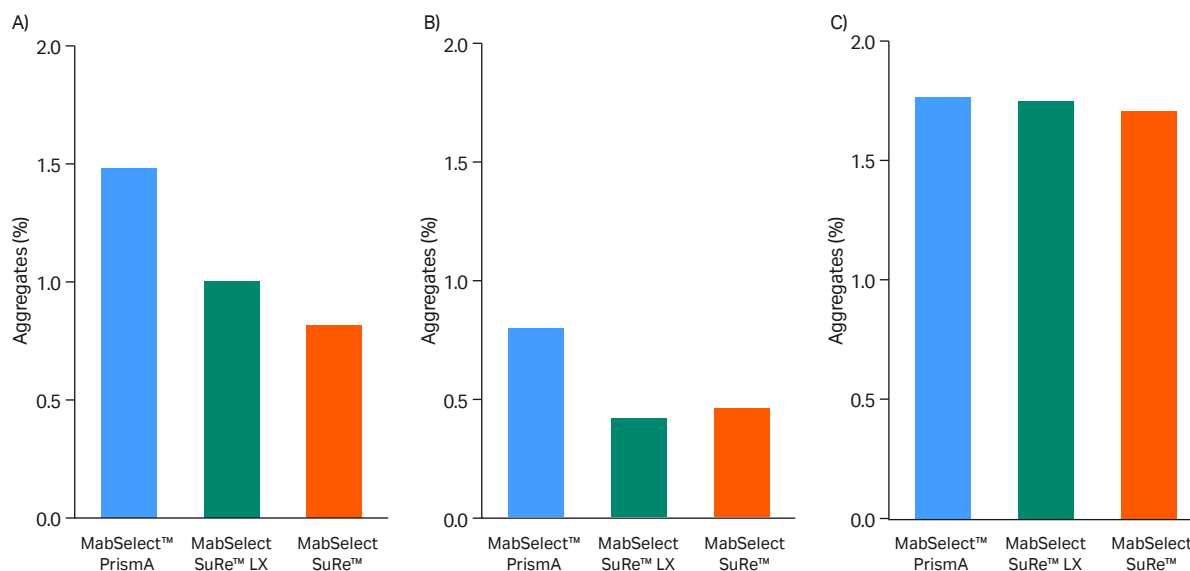

Fig 11. Aggregate content in eluate of (A) mAb1, (B) mAb2, and (C) mAb3. Bar graphs show remaining mAb aggregates (%) in elution pool.
MabSelect™ Prisma exhibits a significantly higher binding capacity than its predecessors MabSelect SuRe™ and MabSelect SuRe™ LX. This means, higher sample loads are allowed with the packed column and also higher mAb concentrations in the elution pool. Aggregate levels will depend on characteristics and concentration of the purified mAb, and pH for elution needs to be monitored and evaluated. Figure 11 shows a comparison between aggregate levels in eluate pool from MabSelect™ Prisma and its predecessor resins. The observed increased aggregate level for one of the mAbs is associated with the higher mAb load, however, in most cases the aggregates levels are similar independent of load (1).